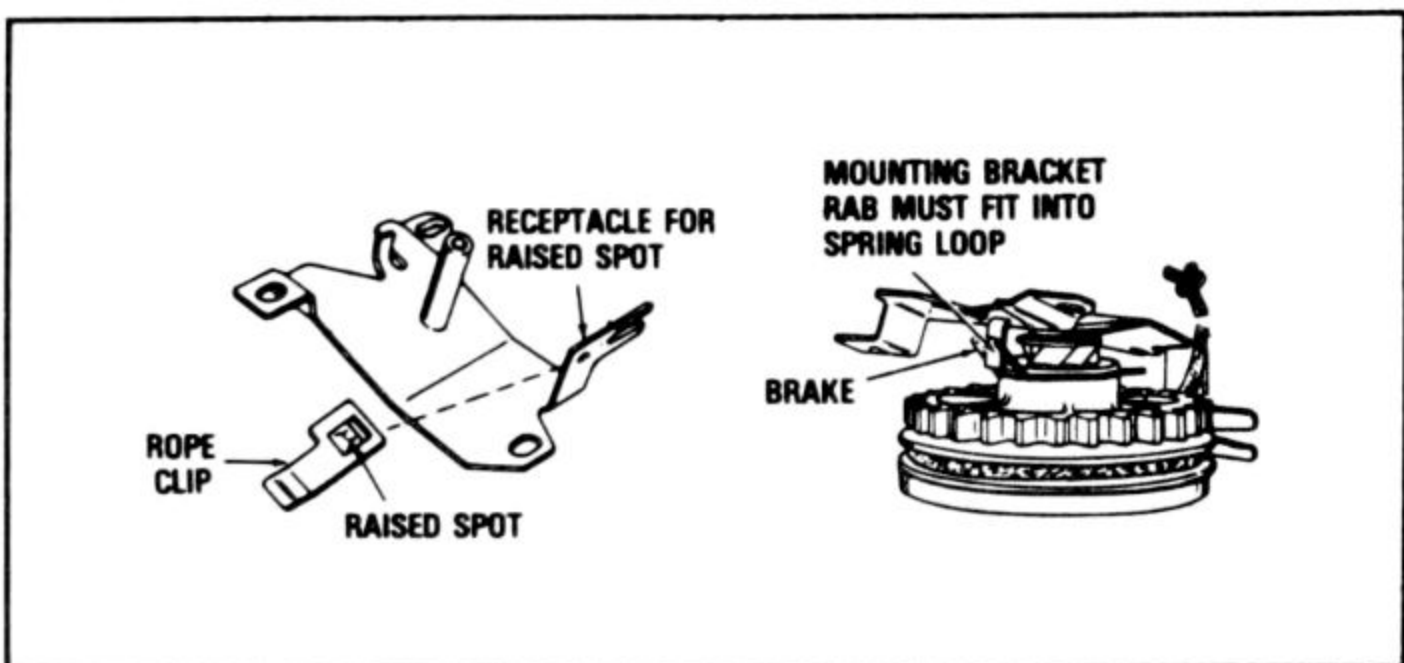

Fig. 4-32. Generous gear lash, minimum 1/16 inch, is required to assure pinion disengagement when engine starts.
3. Lightly grease center shaft and install gear and pulley. Brake spring loop is secured by bracket tab. Rope clip indexes with hole in bracket (Fig. 4-32).